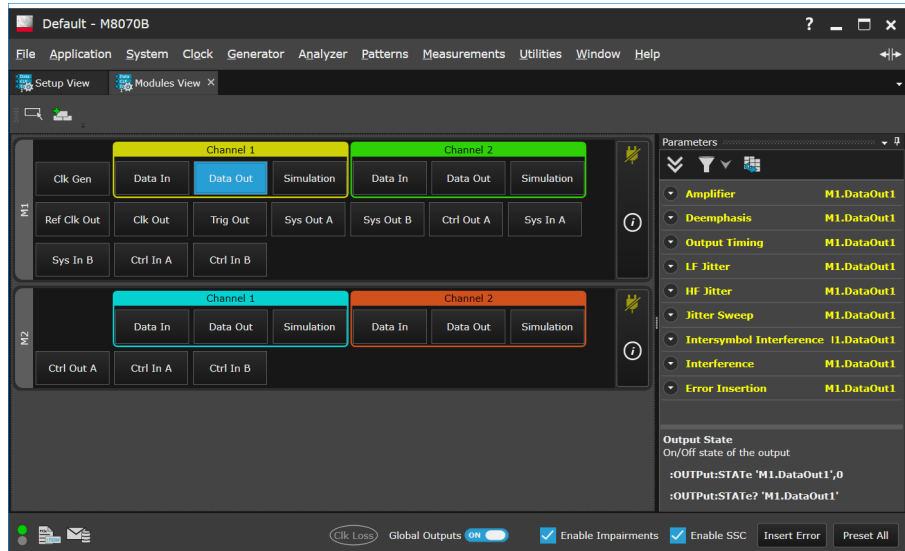

Figure 33 M8070B user interface
- 4 The screen shown in Figure 33 on page -82 should now be displayed.